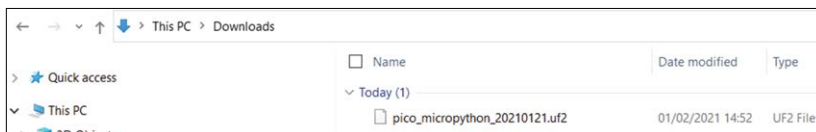

Figure 2.19: Locate file with extension ".uf2".
- Open the **Downloads** folder and locate the file with the extension: **.uf2**. This file will have the name similar to: **micropython-20-Jan-2021.uf2** (Figure 2.19).